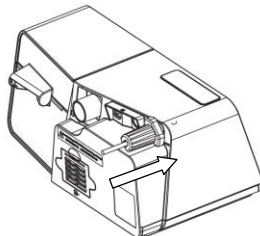

Fig. 11-6
- (3) Insert the power cord locker into the buckle of DC inlet, as shown in Fig. 11-6.